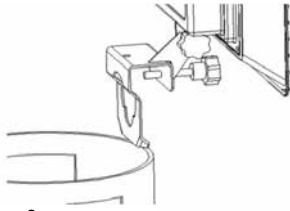

Figure 2
- Mount the heater support bracket to the gas cylinder. (see figure 2)